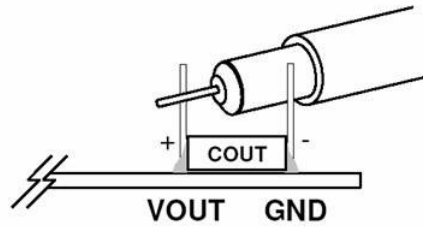

Figure 2. Measuring Input or Output Ripple Directly Across Bulk Capacitor
**NOTE:** When measuring the input or output voltage ripple, care must be taken to avoid a long ground lead on the oscilloscope probe. Measure the input or output voltage ripple by touching the probe tip directly across the Vin or Vout and GND terminals. See Figure 2 for proper scope probe technique.